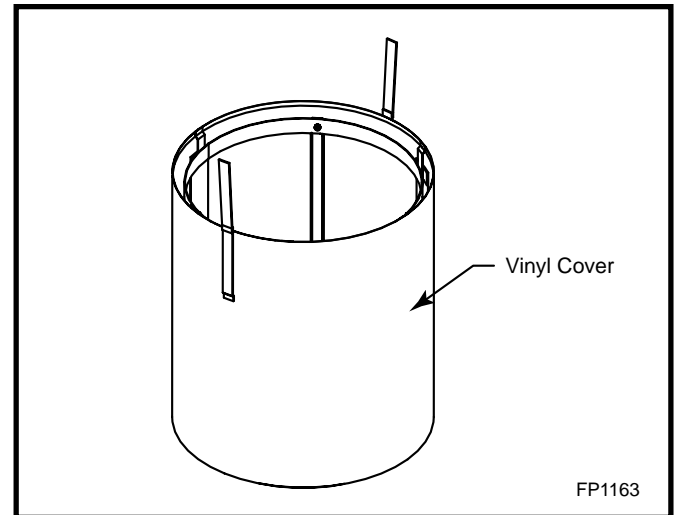

Fig. 18 Use velcro straps to hold vinyl cover to frame.
4. Use the three inside velcro straps to hold the vinyl cover to the frame. (Fig. 18)